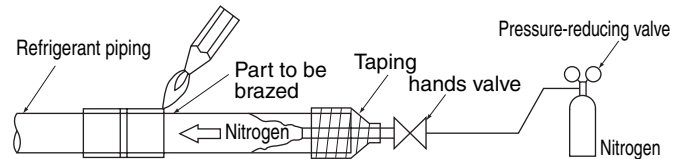

Fig. 25
- Nitrogen should be set to 0.02 MPa with a pressure-reducing valve if brazing while inserting nitrogen into the piping. **(Refer to Fig. 25)**